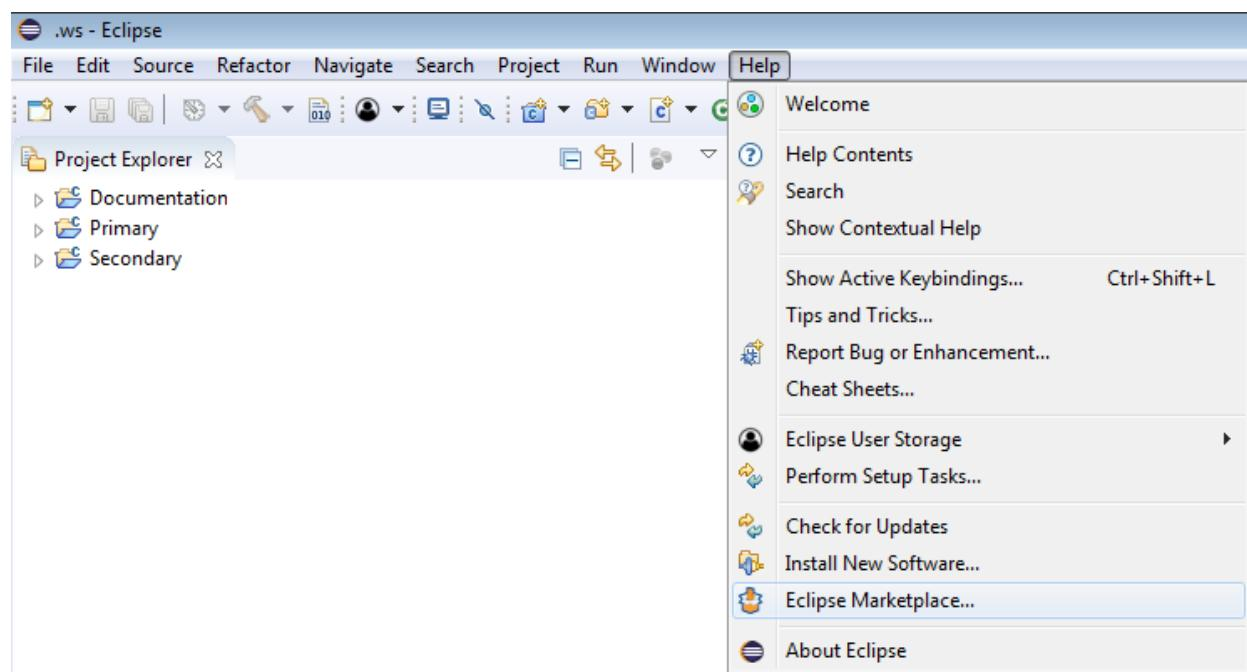

Fig. 11.1: Eclipse Marketplace
- The following plugins must be installed into Eclipse CDT. PyDev (PyDev project website) is mandatory, while LiClipseText (LiClipseText project website) is optional. However it is recommended to install both plugins. The plugins can be installed from the Eclipse Marketplace, which is accessed as shown in Fig. 11.1.